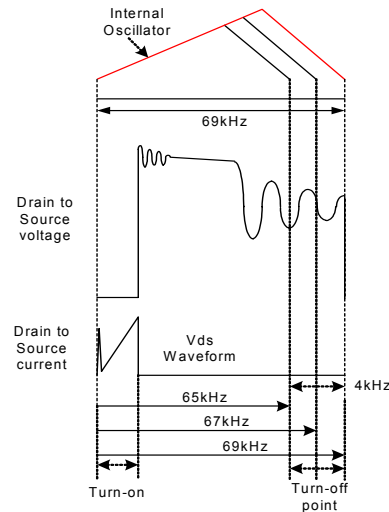

Figure 11. Frequency Modulation Waveform
7. Frequency Modulation : EMI reduction can be accomplished by modulating the switching frequency of a switched power supply. Frequency modulation can reduce EMI by spreading the energy over a wider frequency range than the band width measured by the EMI test equipment. The amount of EMI reduction is directly related to the depth of the reference frequency. As can be seen in Figure 11, the frequency changes from 65KHz to 69KHz in 4mS for the FSDM0365RN. Frequency modulation allows the use of a cost effective inductor instead of an AC input mode choke to satisfy the requirements of world wide EMI limits.